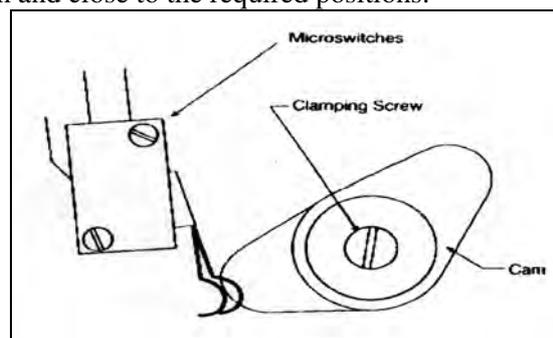

Figure 5: Limit Switches
- The limit switches may now be adjusted (Figure 5). Each unit has its own pair of cams, one to set the open position and one to set the closed position. Loosen the screw holding the cams. Operate the operator with the transmitter and note which cam controls the opening/closing motion (the cam lobe activates a limit switch to turn off the motor). Reposition each cam and operate the operator again. Repeat until the gates open and close to the required positions.